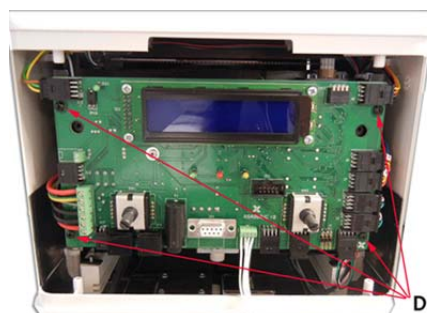

Fig. 1
- Remove the Can DC Step board by unscrewing the 4 screws **D**, see **Fig.1**
- Remove the RSR008 board by unscrewing the 4 screws **D**, see **Fig.1**